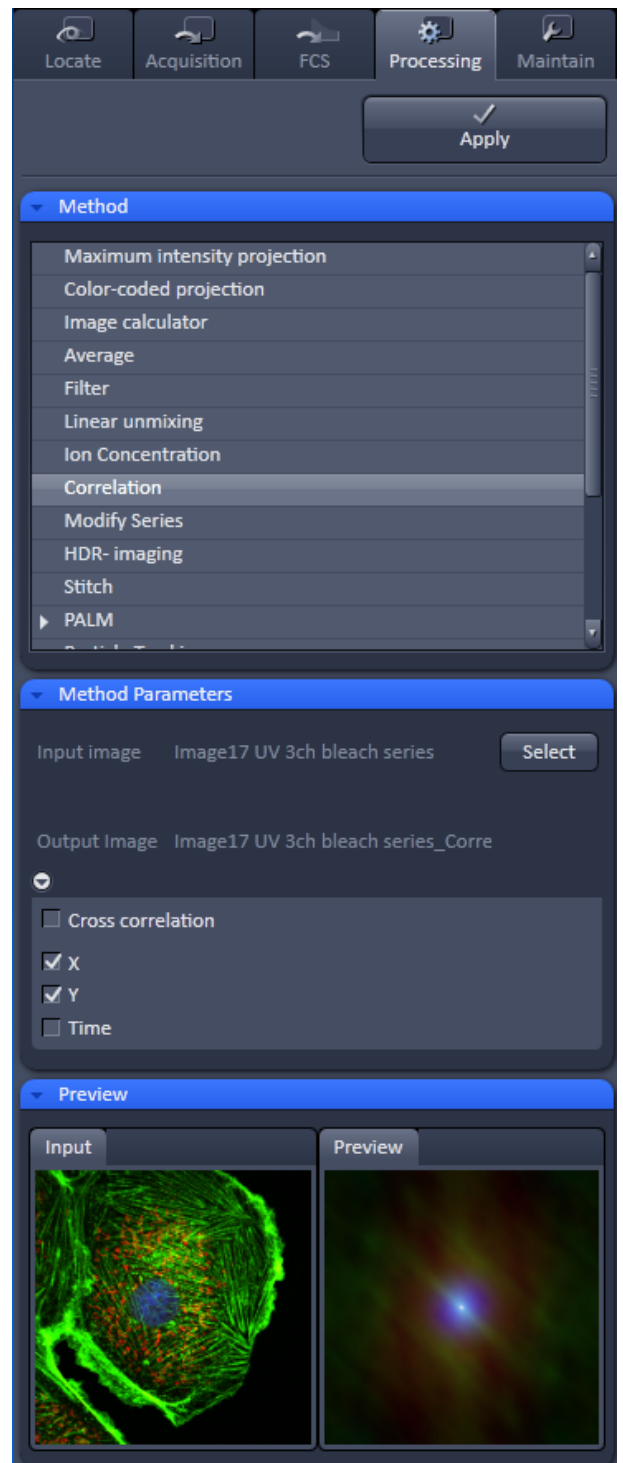

Fig. 283 Processing – Correlation
- Activate **Correlation** in the **Processing** tool. The **Correlation** menu will appear (Fig. 283).